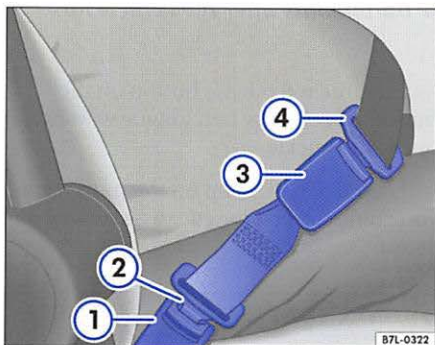

Fig. 17 Attached safety belt extender to the vehicle's safety belt
- Insert the metal tongue of the extender into the respective safety belt buckle ⇒fig. 17 ①.
- Grasp the belt tongue of the safety belt ④ and pull the belt in a continuous slow motion across your chest and lap.
- Insert the safety belt tongue ④ into the buckle of the extender ③ and push down until it is securely locked with an audible click.
- ① Safety belt buckle ⇒fig. 17
- ② Tongue of extender ⇒fig. 17
- ③ Buckle of extender ⇒fig. 17
- ④ Vehicle safety belt ⇒fig. 17